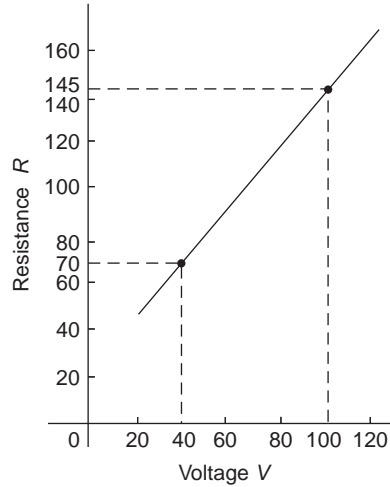

Figure M5
50. A graph of resistance against voltage for an electrical circuit is shown in Fig. M5. The equation relating resistance R and voltage V is: